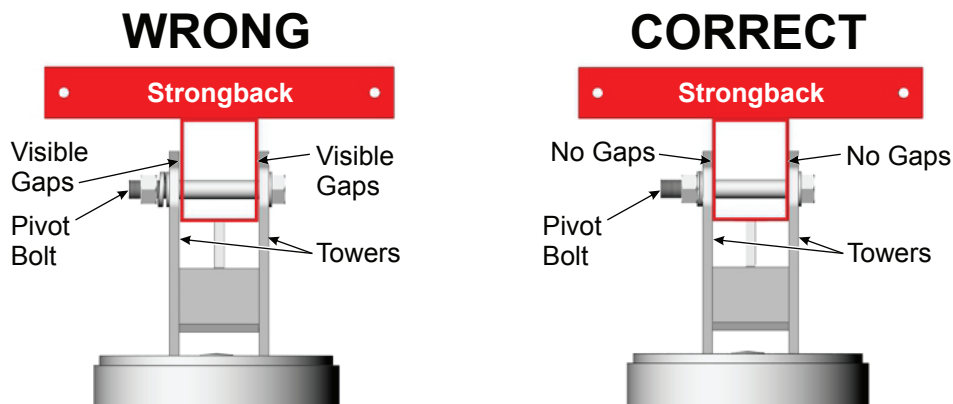

Figure 4-4: Tighten and Torque the Pivot Bolt
- G. Return and tighten the Pivot Bolt. The Pivot Bolt cannot be left loose - the Mounting Sleeve Vertical Towers must be firmly clamped to the sides of the Strongback eliminating any gaps between the Vertical Towers and the Strongback. Torque to 125-150 ft./lbs. (See Figure 4-4)